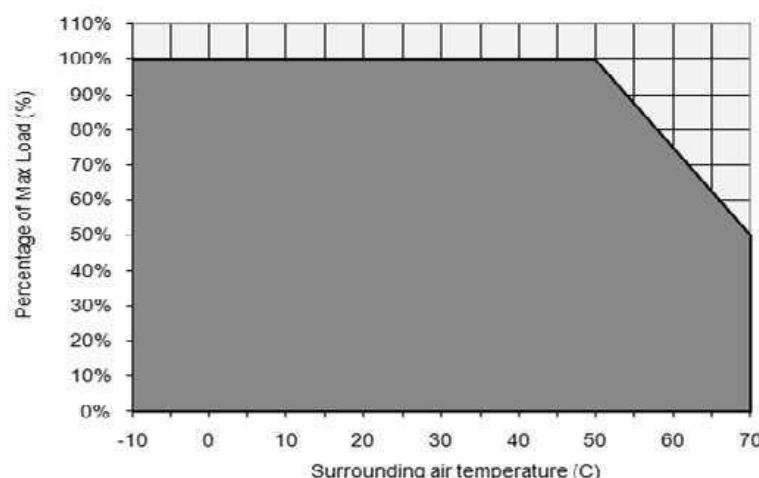

Fig. 1 De-rating for Vertical and Horizontal Mounting Orientation
- Power supply components may degrade, or be damaged, when the power supply is continuously used outside the shaded region, refer to the graph shown in Fig. 1.